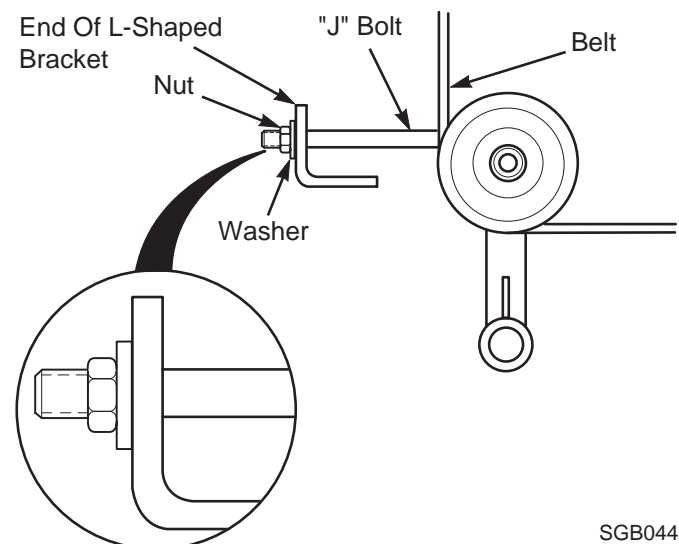

Figure 6-4. Cutter Deck Drive Belt Tension
- A. Adjust the nut so that the belt moves 1/2" with 10 pounds of pressure. See Figure 6-4.